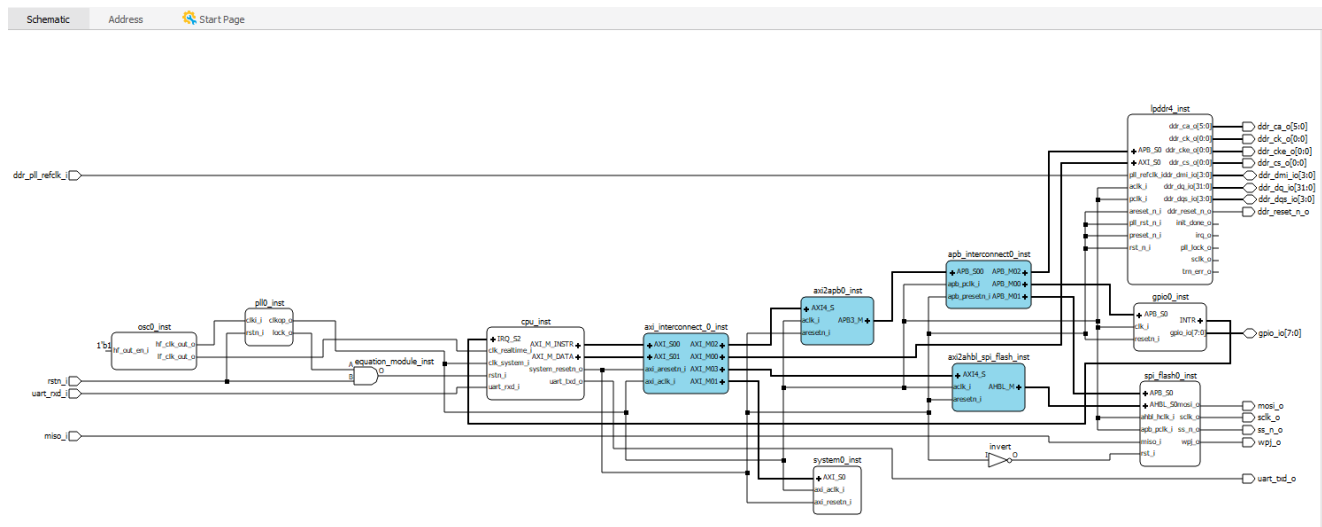

Figure 8.1. Lattice Propel Builder Schematic View
The RISC-V processor system in this reference design is built and generated using Lattice Propel Builder. The components (IP) are instantiated and connected using the schematic graphical user interface of Propel builder, as shown in Figure 8.1.